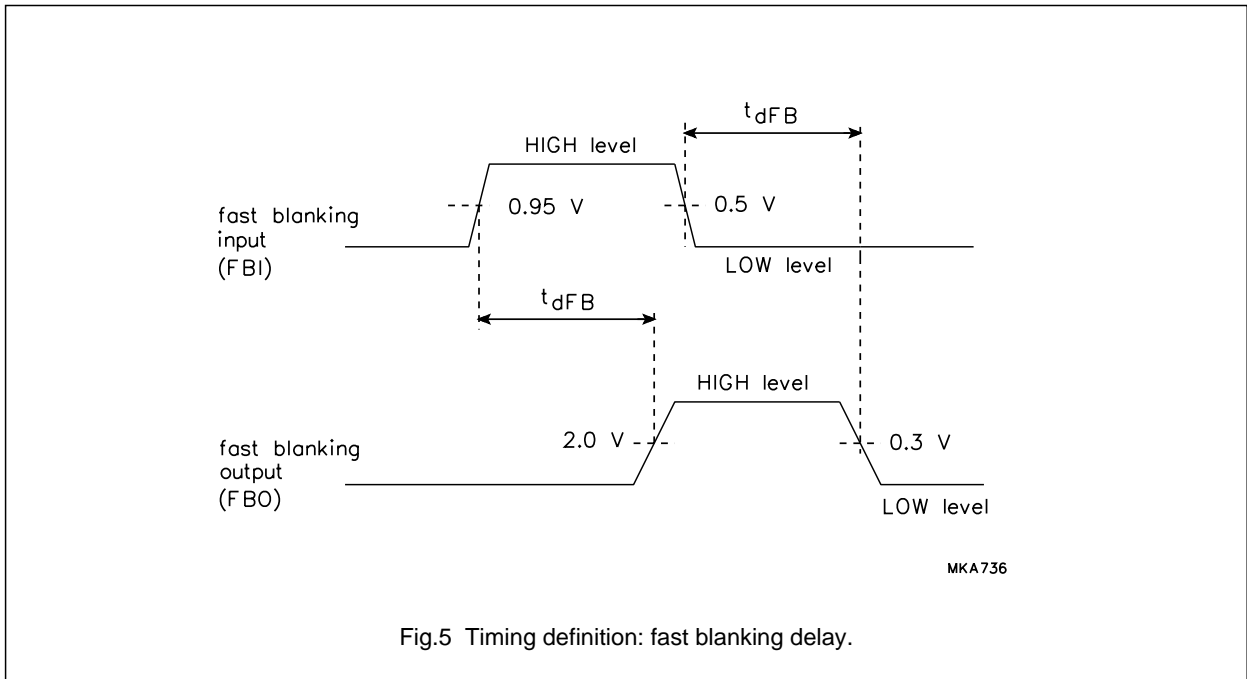

Fig.5 Timing definition: fast blanking delay.
6. The fast blanking delay between input and output is illustrated in Fig.5.